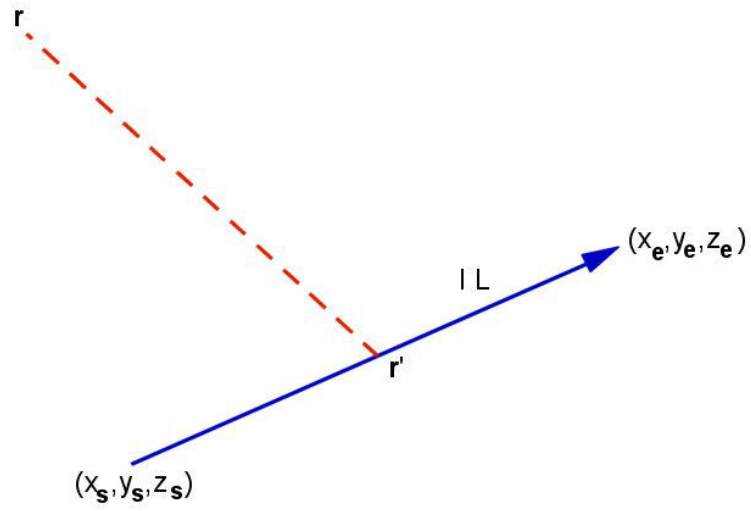

Figure 8: Current-element geometry.
**Magnum** uses a simple yet versatile method to define three-dimensional coils of any degree of complexity. The program expects to receive a predigested list of short current elements in the WND input file. Section 4.13 describes the file format. Figure 8 shows the geometry of a filamentary element of length